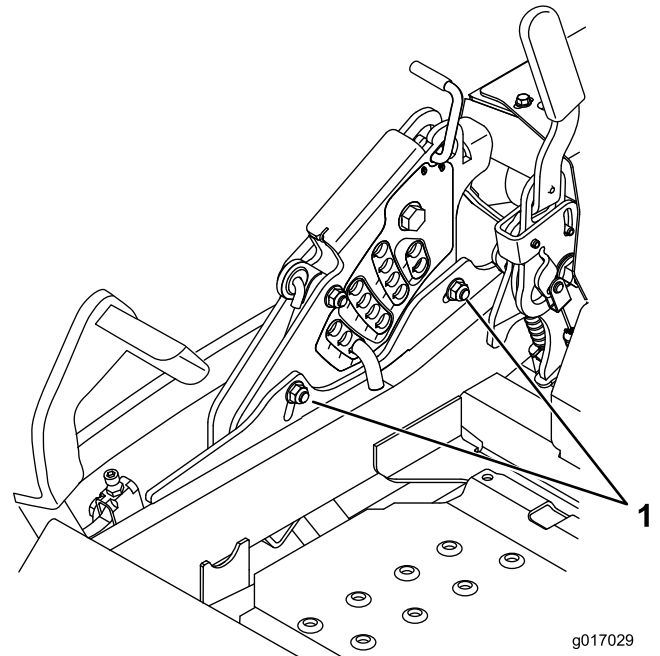

Figure 89
12. To adjust the single point system, loosen the two bolts at the bottom of the height of cut plate. Refer to Figure 89.
- Tighten the two bolts at the bottom of the height of cut plate (Figure 89). Torque to 27-33 ft-lb (37-45 N-m).